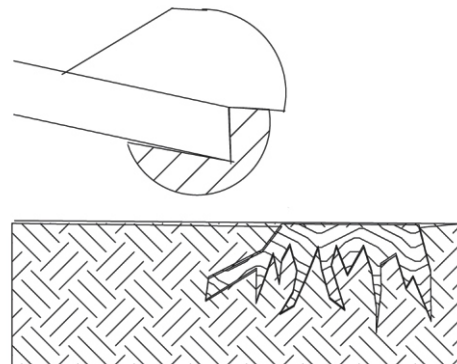

Fig. 6 Grind until stump is level with ground
- f. Repeat process until entire stump is level with the ground (see Figure 6).